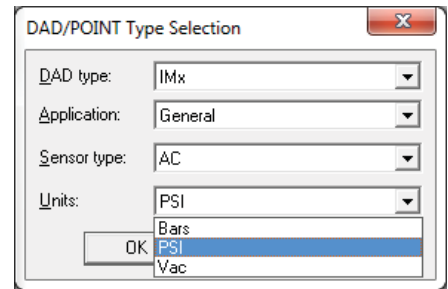

Fig. 4. Select the units.
- 4 Select the **Units** according to your needs and then click **OK** (→ fig. 4).